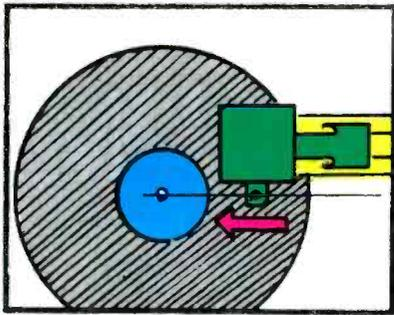

Figure 1.
All phonograph records are manufactured using a disc-cutting lathe that cuts the groove in the master disc using a tangential path; that is, the cutting tool travels from the outside edge of the master disc to the center in a perfectly straight line (see Figure 1). The result is a disc in which there is no angular error.
**Figure 1.** The cutting tool on a record-cutting lathe travels in a straight line, cutting the groove tangentially. For best sound reproduction, the playback stylus should track tangentially.
shutdown sensor circuits have diodes for pulse rectifiers or for voltage barriers (Figure 1). Because diodes are easy to locate on a schematic, unsolder one end of a diode that will disconnect the shutdown operation from the horizontal sweep. Connect your HV probe and ground to the CRT anode and CRT ground, plug in the power cable or switch on the receiver power for just a few seconds—just long enough to obtain a valid HV reading. Then, unplug it immediately.